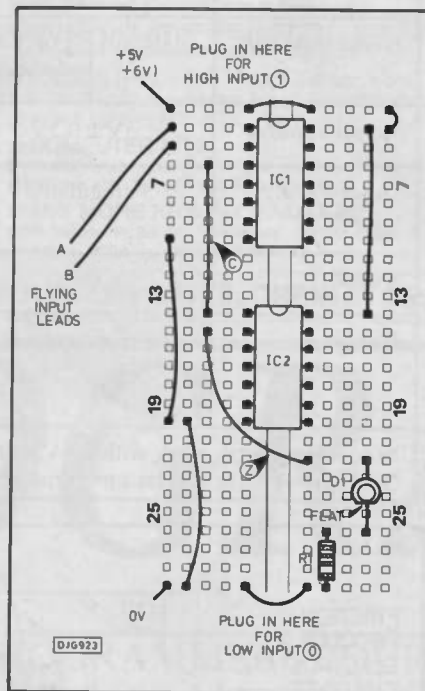

Fig 5. Bread board layout of the logic circuit in Fig 4.
Fig.4 shows the logic circuit. As before, we show the gates by their standard symbols though, to help you, we have written the name of the function below each gate symbol. Above the gate symbol is written the type of ic (both ttl in this circuit). Connections to the power supply are not shown in the circuit diagram, though you can see them in the drawing of the breadboard layout (Fig.5). As in nearly all ttl ics, the 0V goes to the pin at bottom left of each ic (pin 7 in these ics). The positive supply (often referred to as  $V_{CC}$ ) goes to the pin at top right of each ic (pin 14 in these ics).
1. Connect the circuit as in Fig.5. (Instead of including D1 and R1 in the circuit you can use the probe, touching it against pin 2 of IC2 for reading the results.) Remember, you can use 6V batteries if you do not have a 5V regulated supply.